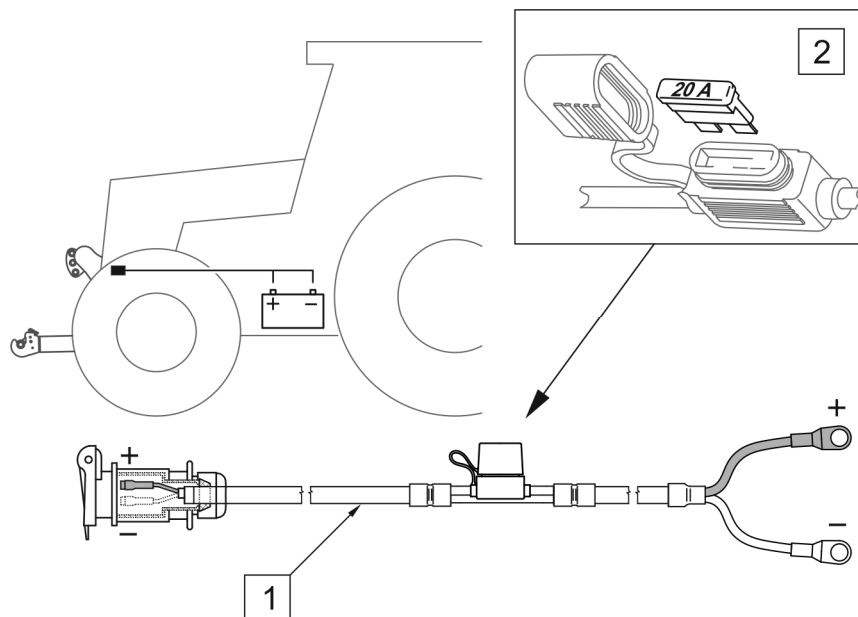

FIGURE 5.6 Fuse replacement
In the snow blower mounted on the carrying vehicle's front three point linkage, the maintenance of the electrical system consists in periodic checking of the operation of individual functions and lights. There is a fuse (2) on the power lead (1) with a 3-pin socket connected to the vehicle's electrical system (FIGURE 5.6). To check the fuse, remove the cover and take it out of the holder. Blown fuse should be replaced with a new one (UNIVAL 20A.)